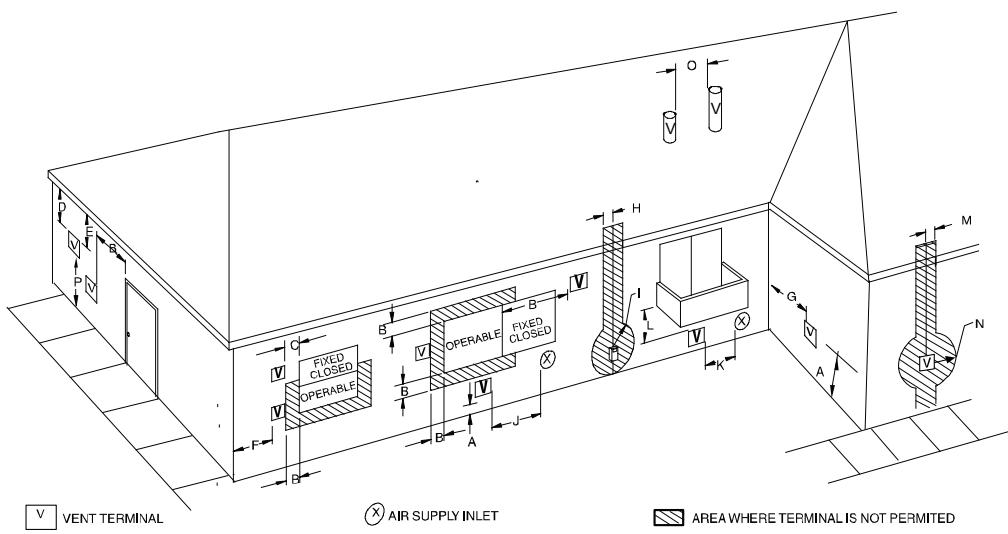

Fig. 42 – Ventilated Combustion Air and Non-Direct Vent Termination Clearance
In a ventilated combustion air option, the vent terminates and discharges the flue products directly to the outdoors similar to a direct vent system. See Fig. 42 for references to clearances required by National code authorities.
in the Air For Combustion and Ventilation Section. Do not use an abandoned chimney to supply outside air to the furnace. See Fig. 42 for references to vent clearances required by National code authorities.
For vent termination clearance, references to National codes are shown in Fig. 41 for Direct Vent/2-Pipe system and Fig. 42 for Ventilated Combustion Air/Non-direct Vent/1-Pipe system. For exterior termination arrangements, refer to Fig. 39 for Direct Vent/2-Pipe system and Fig. 40 for Ventilated Combustion Air/Non-Direct/1-Pipe system. Contact Local code authorities for other requirements to and/or exemptions from the National codes shown in the figures.
1. Comply with all clearance requirements stated in Fig. 41 or Fig. 42 per application.
The vent pipe for a Ventilated Combustion Air System must terminate outdoors. See Fig. 42 for references to vent clearances required by National code authorities. Allowable vent terminations are shown in Fig. 40. The combustion air pipe terminates in a well-ventilated attic or crawl space. Follow the clearances as shown in Fig. 47.
The vent pipe for a Non Direct Vent (1-pipe) system must terminate outdoors. See Fig. 42 for references to vent clearances required by National Code authorities. Allowable vent terminations are shown in Fig. 40.